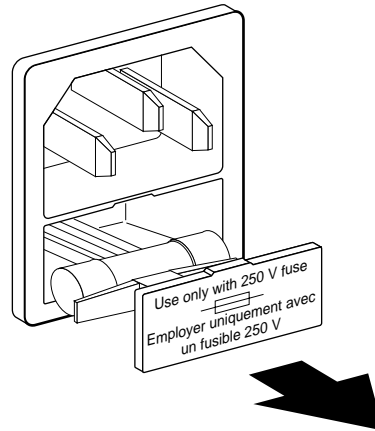

Figure 1. Opening the Fuse-holder in the AC Receptacle Assembly
3. **Carefully pry open and pull out the fuse-holder, as shown in Figure 1.**